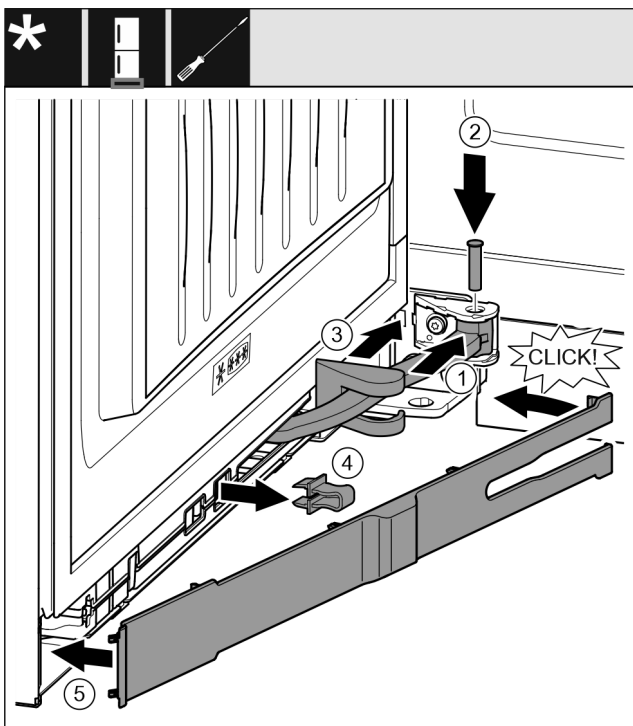

Fig. 41
- ▶ Turn the joint Fig. 41 (1) in the attachment.
- ▶ Use a screwdriver to insert the bolt Fig. 41 (2) into the attachment and the joint. Ensure that the latching cam is in the groove properly.
- ▶ Push the swap bearing block cover Fig. 41 (3) along the joint and use the attachment to fit it.
- ▶ Remove the safeguard Fig. 41 (4).
- ▶ Place the trim Fig. 41 (5) on the handle side and swing in.